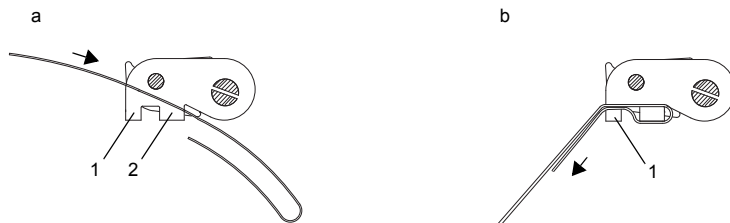

Fig. 7.28: Ratchet Clasp with tension strap
- Insert approx. 10 cm of the tension strap through parts (1) and (2) of the ratchet clasp (see Fig. 7.28 a).
- Insert the tension strap in part (1) of the ratchet clasp (see Fig. 7.28 b).